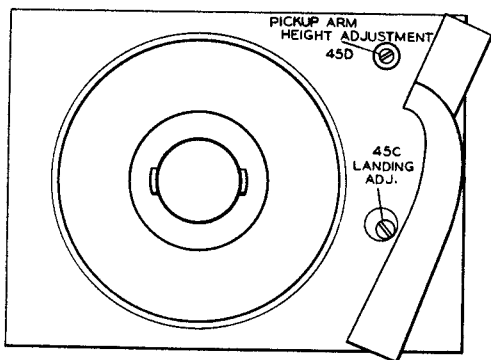

Figure 42—Height and Landing Adjustment Studs.
1. After the tripping adjustment has been made as described above, turn the eccentric landing adjustment stud (45C) so that the sapphire will set down on the record half-way between the outer edge and the first music groove. This position is $2\frac{5}{8}$ " from the turntable spindle. The location of the adjustment stud is illustrated in Figure 42.
Set the mechanism in cycle. Turn the turntable by hand, until the pickup arm has reached its maximum height. By means of a screwdriver turn the height adjustment stud (45D) until the distance between the top of the turntable and the sapphire point is $\frac{3}{4}$ " Use that position of the eccentric stud which causes the pickup arm to rise during clockwise adjustment of the stud. The location of the adjusting stud is illustrated in Figure 42.